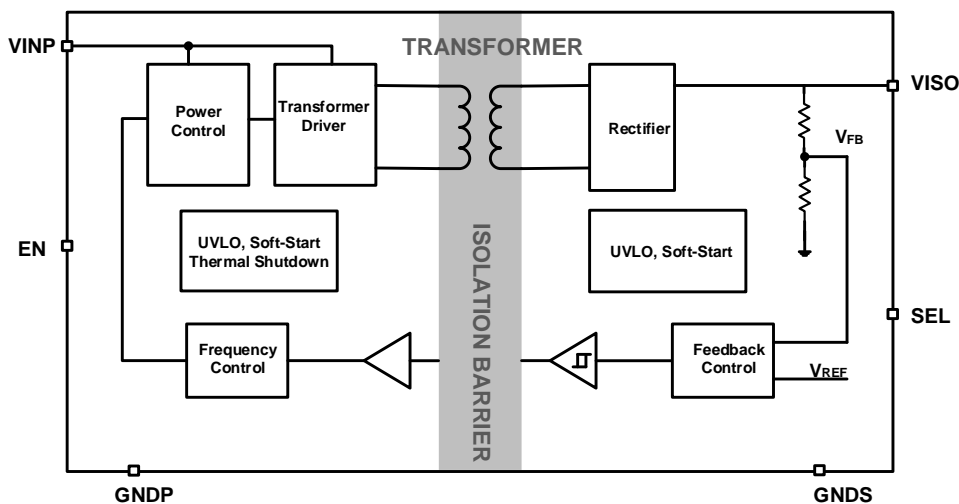

Figure 8-1. Functional Block Diagrams
The CA-IS3115AW-Q1 is a family of complete isolated DC-DC converters designed to provide isolated power with up to 1.5W output power across a 5kV_{RMS} isolation barrier. The devices operate over 4.5V to 5.5V input voltage range and use a proprietary control mechanism. The input supply V_{INP} is provided to the primary power controller that switches the power stage connected to the integrated transformer. Power is transferred to the secondary side and regulated to a fixed output voltage set by the SEL pin. The soft-start feature allows to reduce input inrush current and avoid output overshoot. These devices also incorporate an output enable (EN) control and undervoltage lockout(UVLO) function that allows the user to turn on the part at the desired input-voltage level. Figure 8-1 shows the CA-IS3115AW-Q1's functional block diagram. Connect the EN pin to V_{INP} or force this pin high to turn on the DC-DC converter. Force this pin low to disable the device and enter low-current shutdown mode. These devices offer a ready-made, reliable, easy-to-use solution and allow users save PCB space and reduce design time for the popular 5V, 3.3V power supply systems.